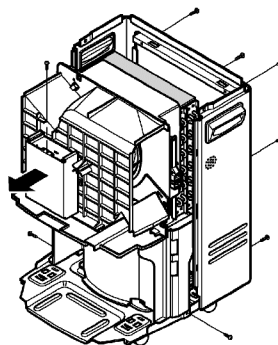

Figure 13
2. Remove the screw from the top of the control box (upper), and pull out the control box. (See Figure 13)